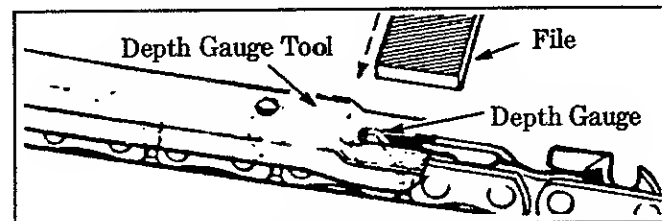

Figure 29
- a.) Place depth gauge tool over each cutter depth gauge. Figure 29.
- c.) Maintain rounded front corner of depth gauge with a flat file. Figures 29 & 30.